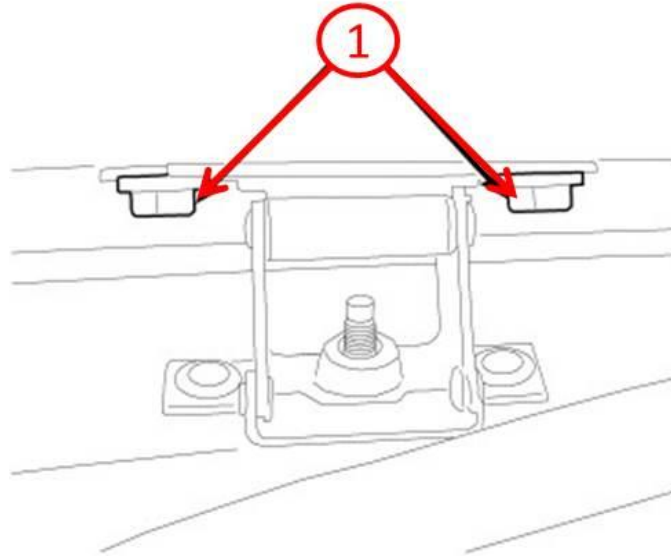

Fig. 1 Inspect for missing bolt at liftgate hinge
2. Is there a missing bolt (1) at the passenger liftgate hinge? (Fig. 1)